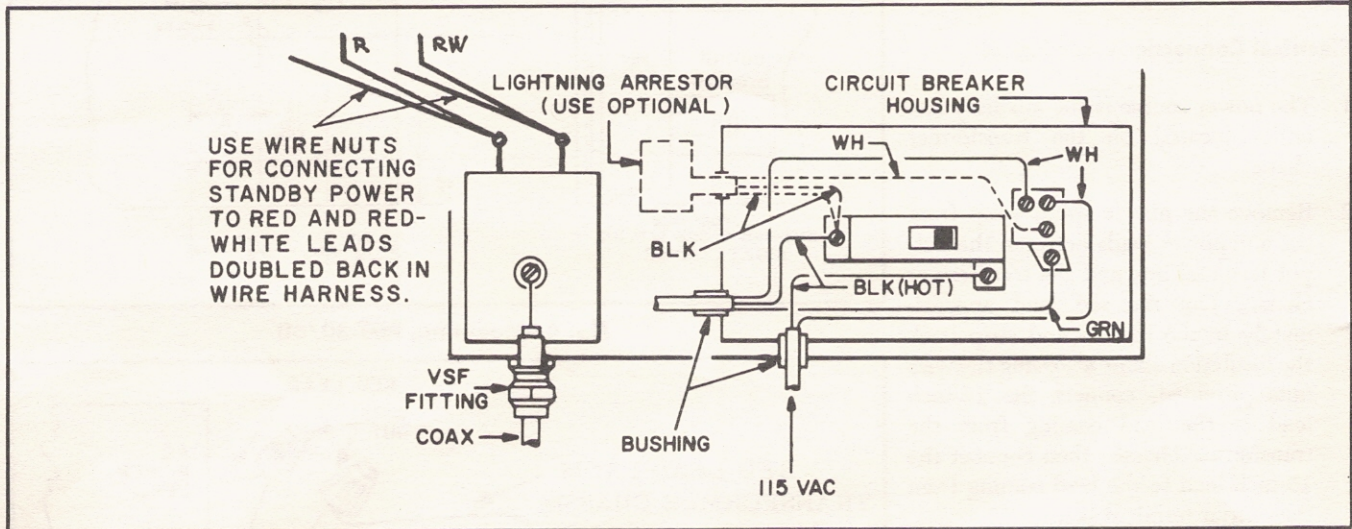

Fig. 7—Electrical Connections in Circuit Breaker Box
1. To install the lightning arrester in the circuit breaker box, remove the knockout illustrated in Fig. 7. Secure the lightning arrester with the pipe nut provided.
- Feed the 115 V cable through the bushing in the bottom of the power supply housing into the circuit breaker box. Connect the wire ends as shown in Fig. 7. Replace the cover on the circuit breaker box; make sure the circuit breaker switch is in the OFF position. Also make sure the 115 V plug of the chassis connector cable is properly seated in its receptacle.